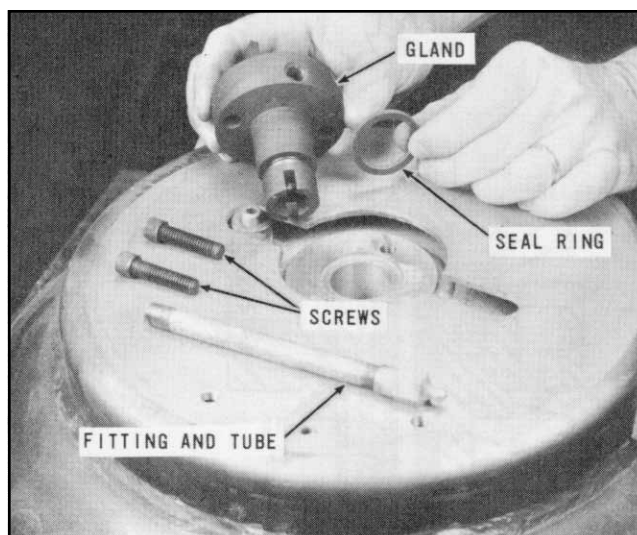

Figure 9 – Gland Removed
1. To remove the gland assembly, Figure 9: